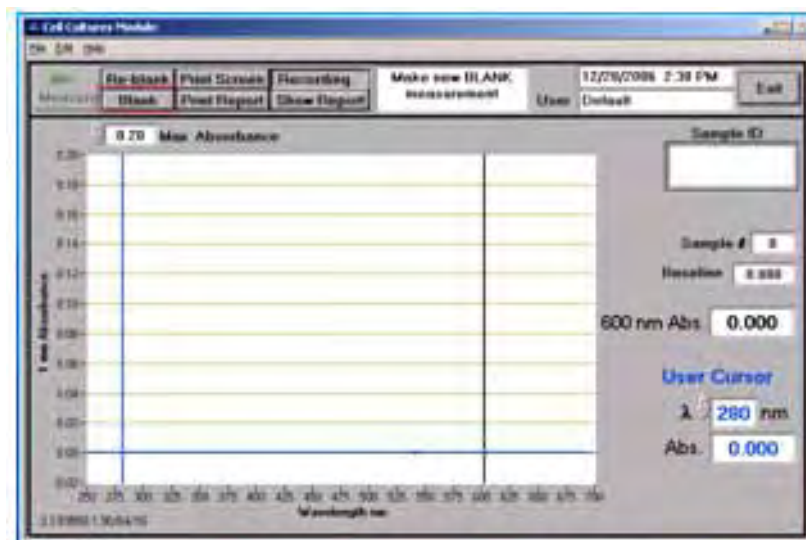

Figure 30 NanoDrop® ND-1000 Spectrophotometer software measurement dialog box.
8. Click **Blank** and allow the instrument to take a measurement (see Figure 30 on page 192).